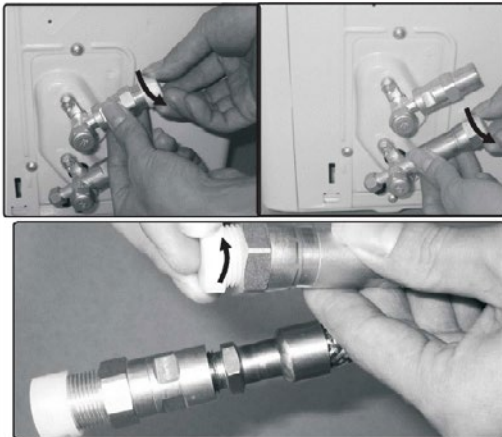

Fig. 6.2
2. Do not remove the plastic seals from the outdoor unit and the appropriate refrigerant pipes until immediately before you need them, Fig.6.2